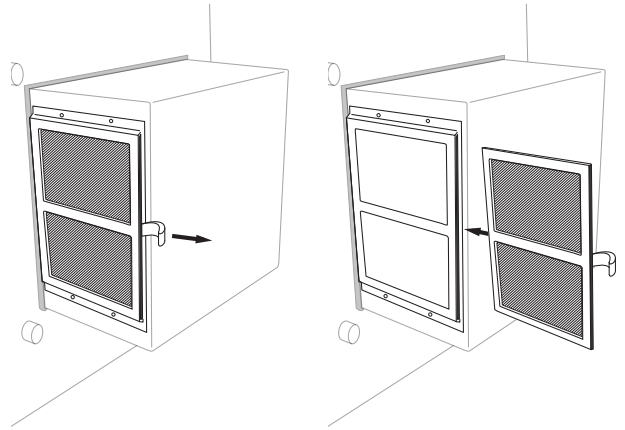

Fig. 4-4, Removing and Reinstalling the Filter
6. Remove the filter by pulling the filter tab. Replace filter, see Fig. 4-4.